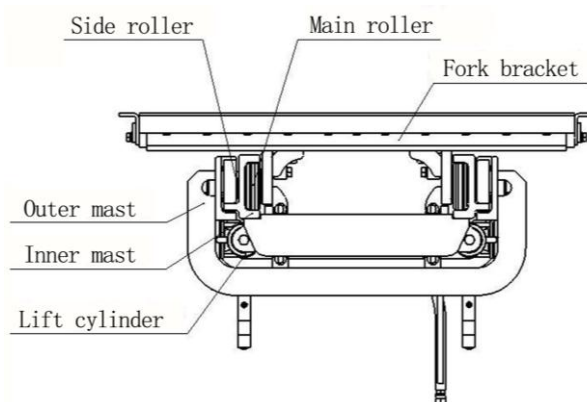

Fig7.2 Roller position
7.1.4 Roller position (Fig7.2)